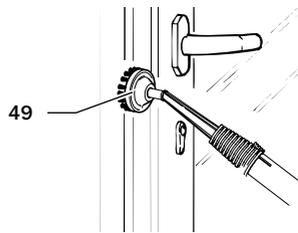

Fig. 17
*Door jambs, frames, blinds, shutters, Venetian blinds.* For these surfaces, in addition to the accessories above, the large brush 49 (Ø 60) (fig. 17) is recommended.